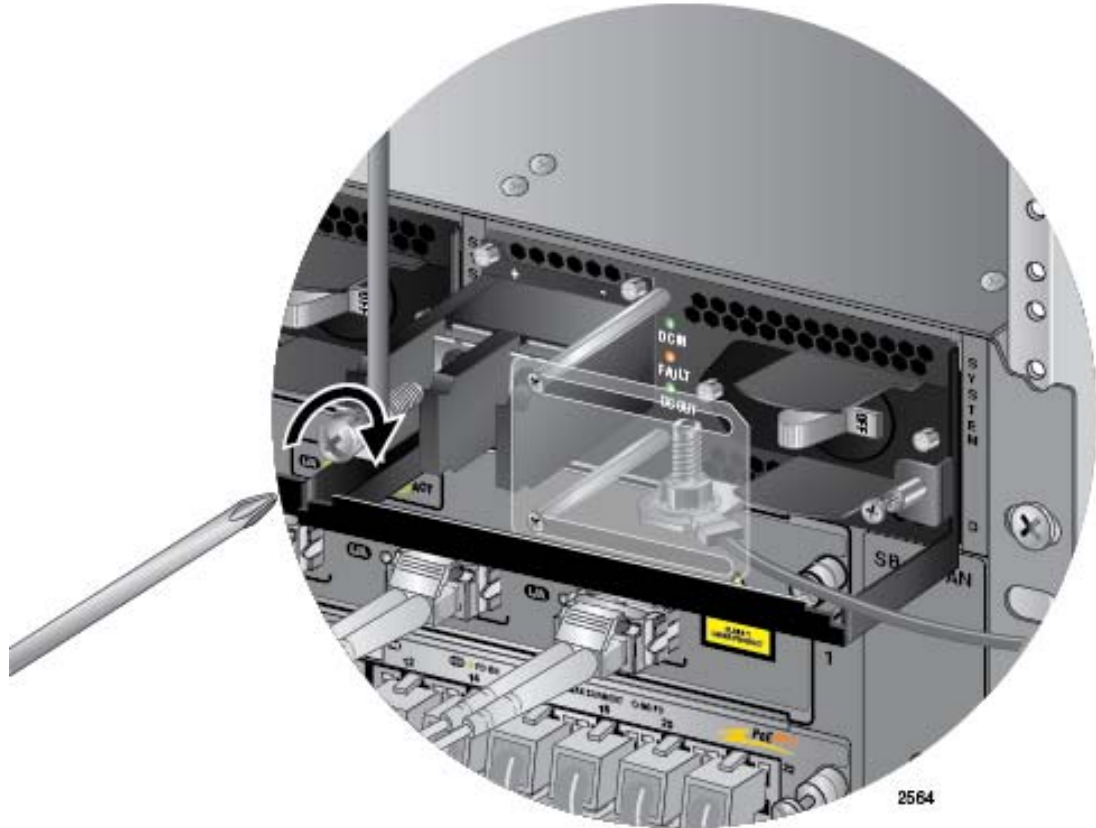

Figure 150. Connecting the Positive Lead Wire
5. Wrap the positive lead wire clockwise around one of the terminal screws and secure the screw and wire to the positive terminal connection on the terminal block with a #3 Phillips-head screwdriver. The positive terminal is on the left. You may attach the wire to the terminal so that it extends either above or below the terminal block. Figure 150 on page 215 shows the wire above the terminal block. Allied Telesis recommends tightening the screw to 30 to 40 inch-lbs.